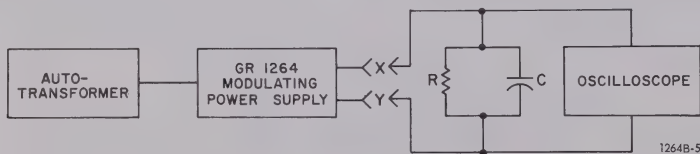

Figure 5-2. Circuit for testing modulated output of the 1264 Modulating Power Supply.
MODULATED OUTPUT. To test the modulated output (internally driven) of the 1264, use the basic circuit shown in Figure 5-2, and proceed as follows:
- a. Connect the load circuit (leads x and y, Figure 5-2) to the 8-terminal receptacle (S0102) on the 1264, as shown in Table 5-4. Use the 15 k Ω resistor and the 300 pF ca-